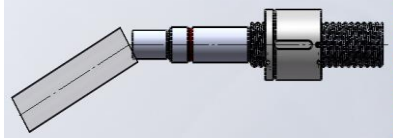

Fig. 4
- Remove the sleeve. Secure the nut against coming off of the screw (use a rubber ring or the axial lock of the sleeve) (Fig. 4).